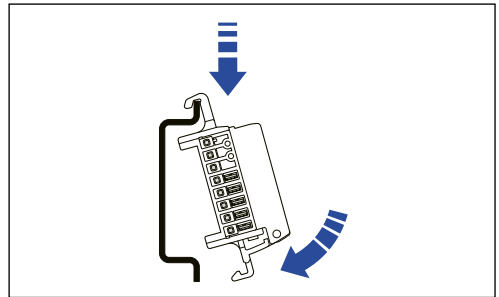

Fig. 4: Placing and snapping the DIN rail connector on the standard rail
- b. Plug the DIN rail connector of a connection module onto the 35 mm standard rail and snap it onto the rail (Fig. 4).